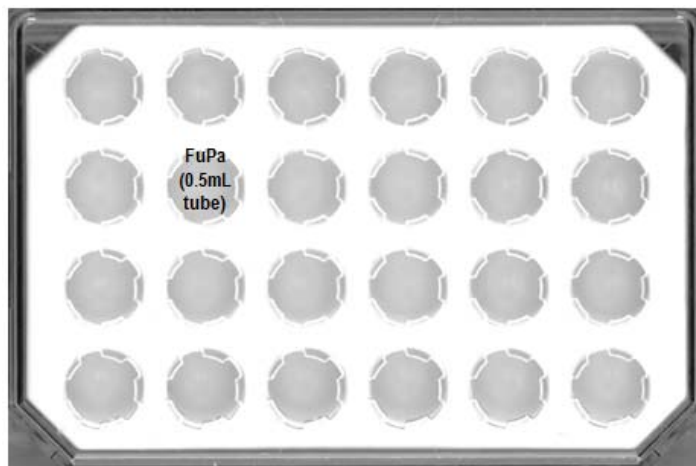

Figure 16: Well Map of the Eppendorf IsoRack, with FuPa reagent for the Partial Digestion step.
- c. Make sure the 0.5mL tube of FuPa reagent in the IsoRack chilling block according to the diagram in Figure 16.